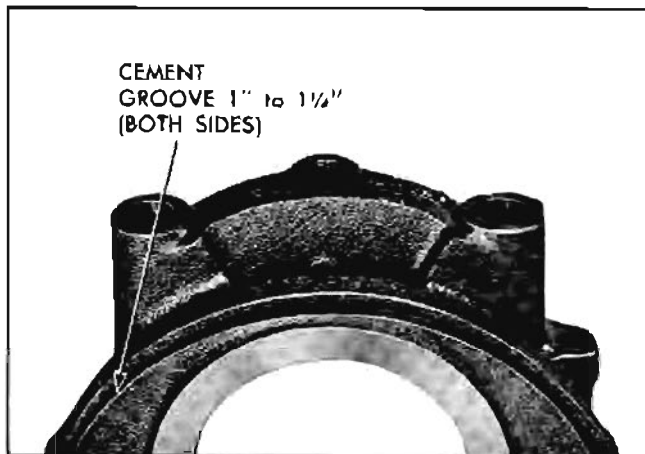

Fig. 6-46 Oil Pan Gasket Positioned in Bearing Cap
8. Apply gasket cement to gasket groove from joint face down 1" to 1 1/4" (Fig. 6-46) and install new gasket.